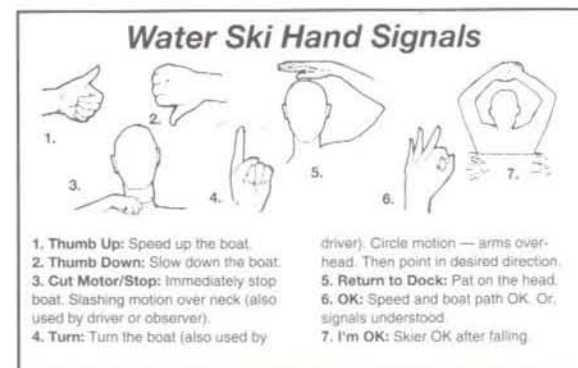

FIGURE 2.1
The following illustration (Figure 2.1) identifies a set of hand signals recommended by the American Water Ski Association (AWSA). Skier, observer and boat operator should all know and understand these seven (7) simple signals from the skier.